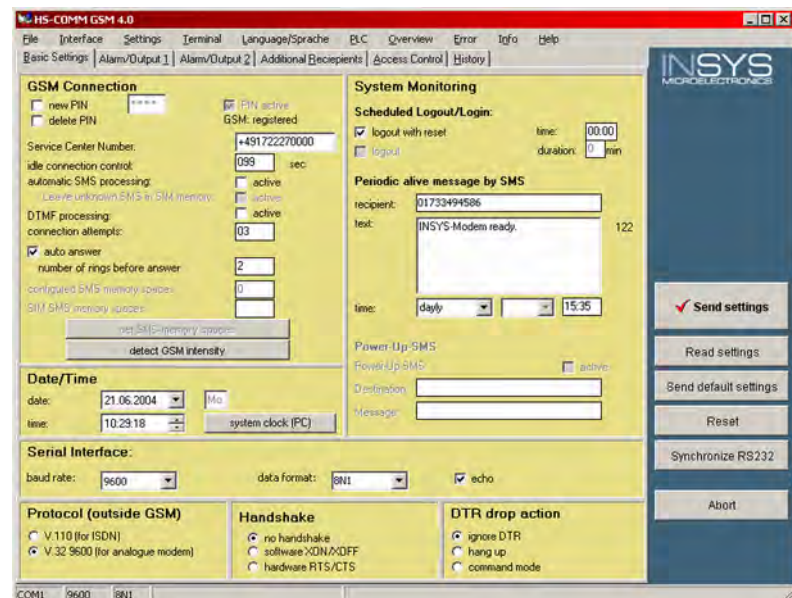

Fig. 180: GSM modem - basic settings
- ➔ Set up the modem as shown in (Fig. 180) on the “Basic Settings” tab.